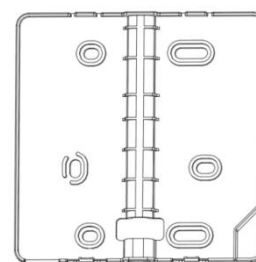

Fig.2
3. As shown in Fig.2 fix the wire controller to the wall with three screws through the three oval holes on the back cover of the wire controller. (Prepare three screws which are readily available in the market)